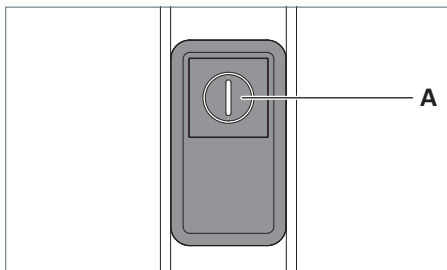

Fig. 33: Control element.
- Press the key **A** seven times quickly in succession, see Fig. 33.
- Press the key **A**, see Fig. 33.
- Press the key **A** and keep this key pressed, see Fig. 33.